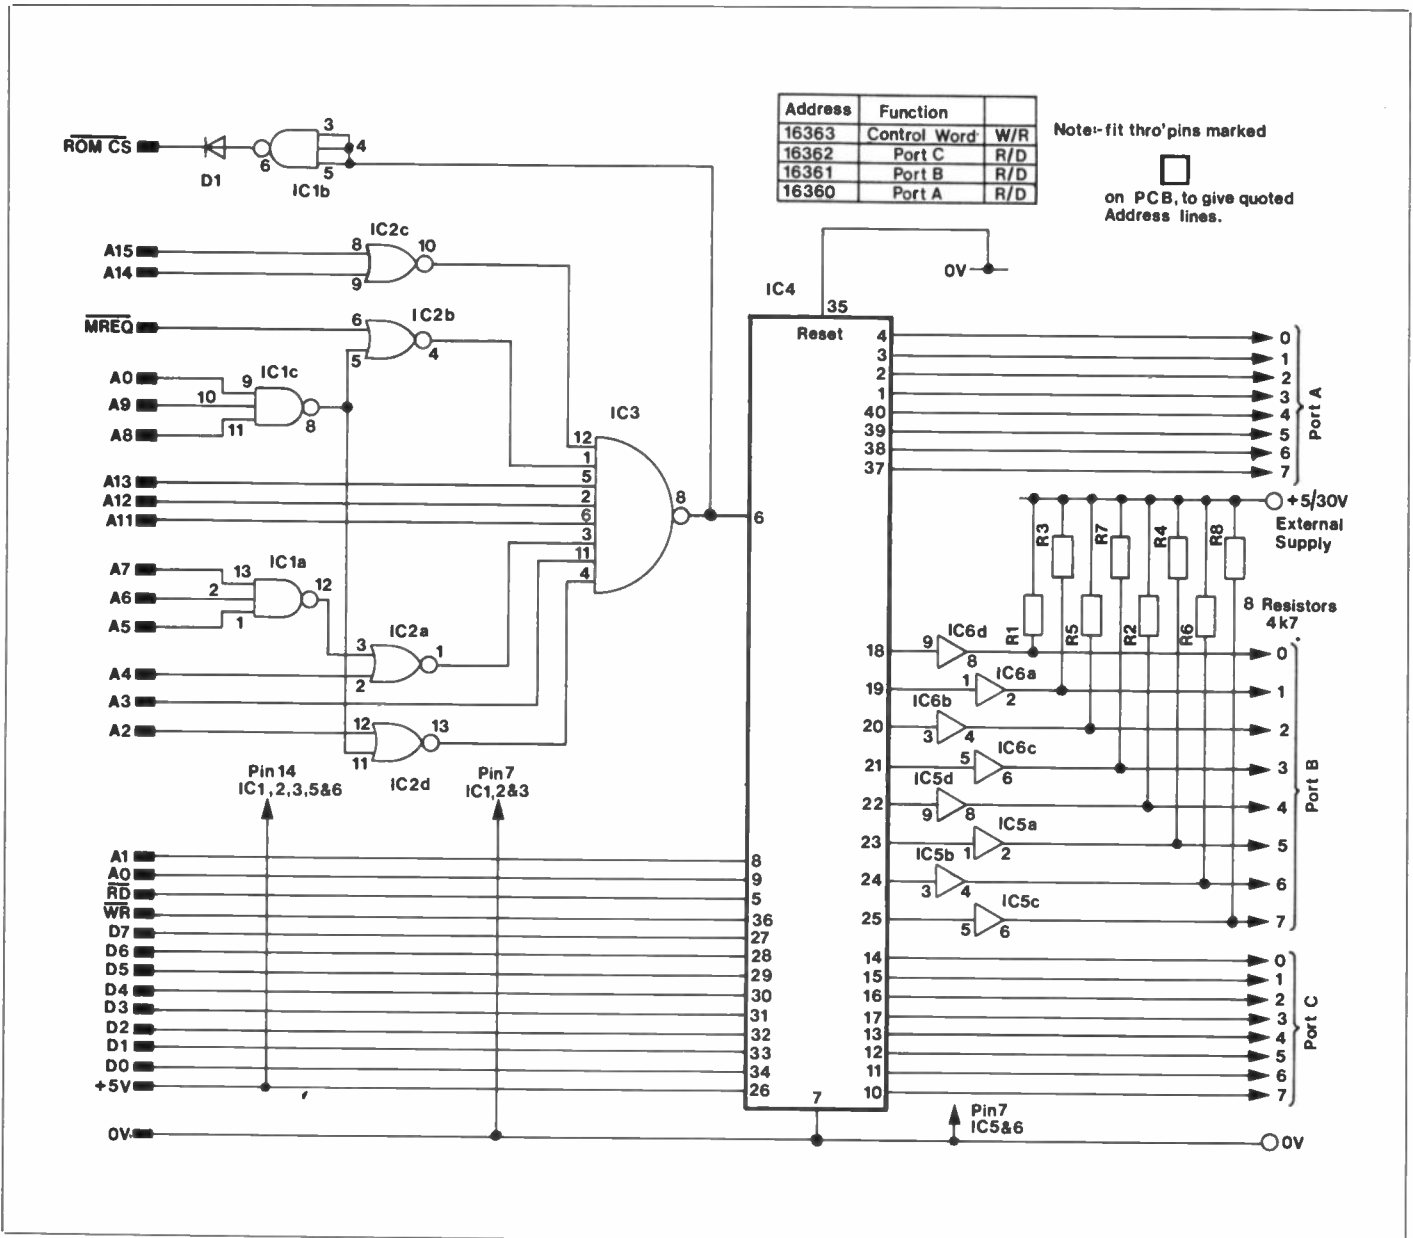

Figure 1. Circuit diagram of I/O Port.
The I/O port, shown in figure 1, gives many possible modes of operation. For the purposes of this article examples are given for only the simplest, although the 8255 used here has a total of three programmable operations.
Figure 1 shows a complete circuit diagram of the board, and Figure 5 shows the alternative address decoder circuitry. The MP8255 (IC4) has two address lines, pins 8 and 9, which are connected directly to the ZX81 address lines A1 and A0. The remainder of the address decoding is performed by ICs 1, 2, and 3, which enables the MP8255 with a logic 0 at pin 6 (CS).